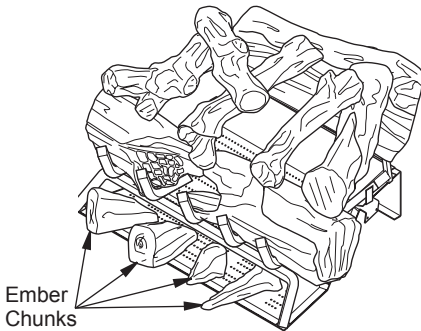

Figure 9 - Placement of Top Logs
5. Figure 8 and Figure 9 on page 9 show a recommended log arrangement, however you may arrange the logs as you wish. Leave as much open space as possible to minimize flame impingement and sooting. **Note:** Logs may chip if they are handled roughly or if hit together while being placed.
5. Place ember chunks onto bottom portion of ramp burner using Figure 9, page 9, as an example.